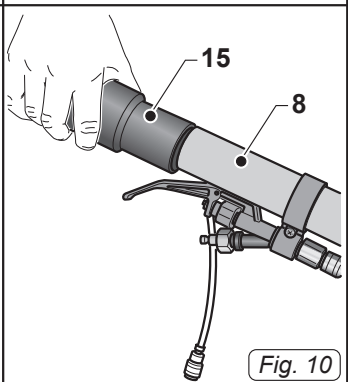

Fig. 10
- Insert the tube (8 Fig. 10) in the hose (15 Fig. 10)